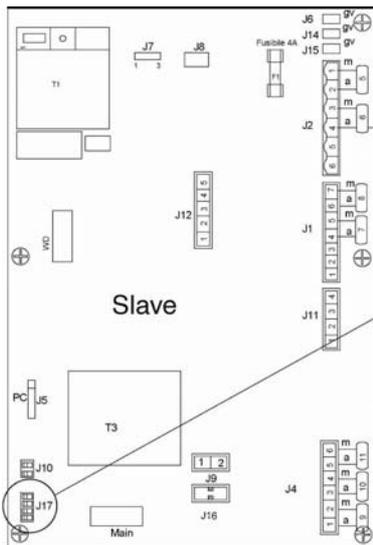

Figure 26
- b. Set all four J17 switches located on each Slave of the thermal assembly on the Off position (Figure 26);